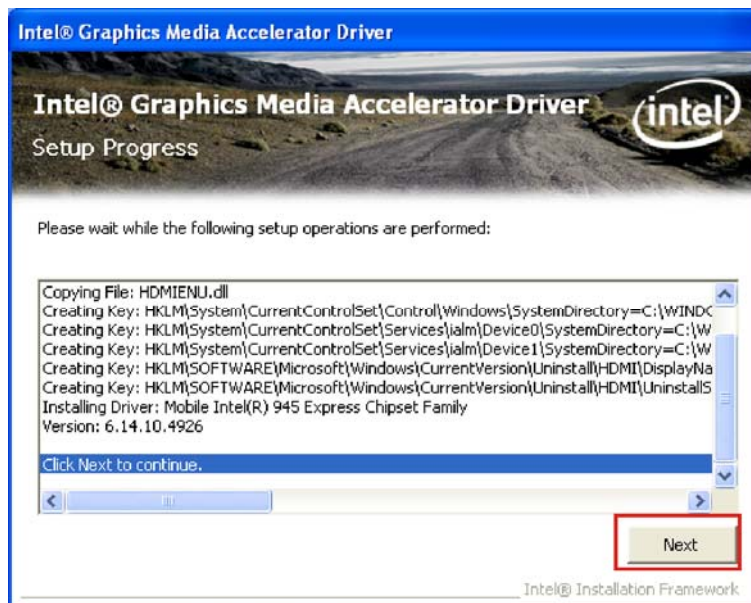

Figure 7-14: VGA Driver Setup Operations
Step 13: **Setup Operations** are performed as shown in **Figure 7-14**.